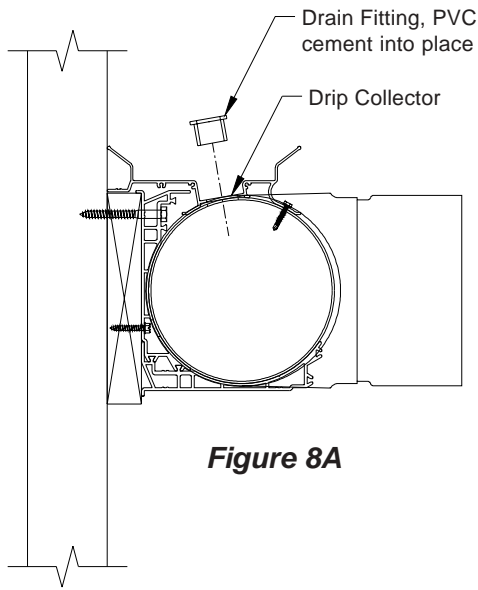

Figure 8A
- 11) Starting 12" from left end of drip collector, use a 1^{3/8}" dia. hole saw and drill a hole through the drip collector and 8" pipe every 24" O.C. Make sure not to leave plugs from drilling hole in the pipe. PVC cement drain fitting, into hole. **See Figures 8A and 8B.**